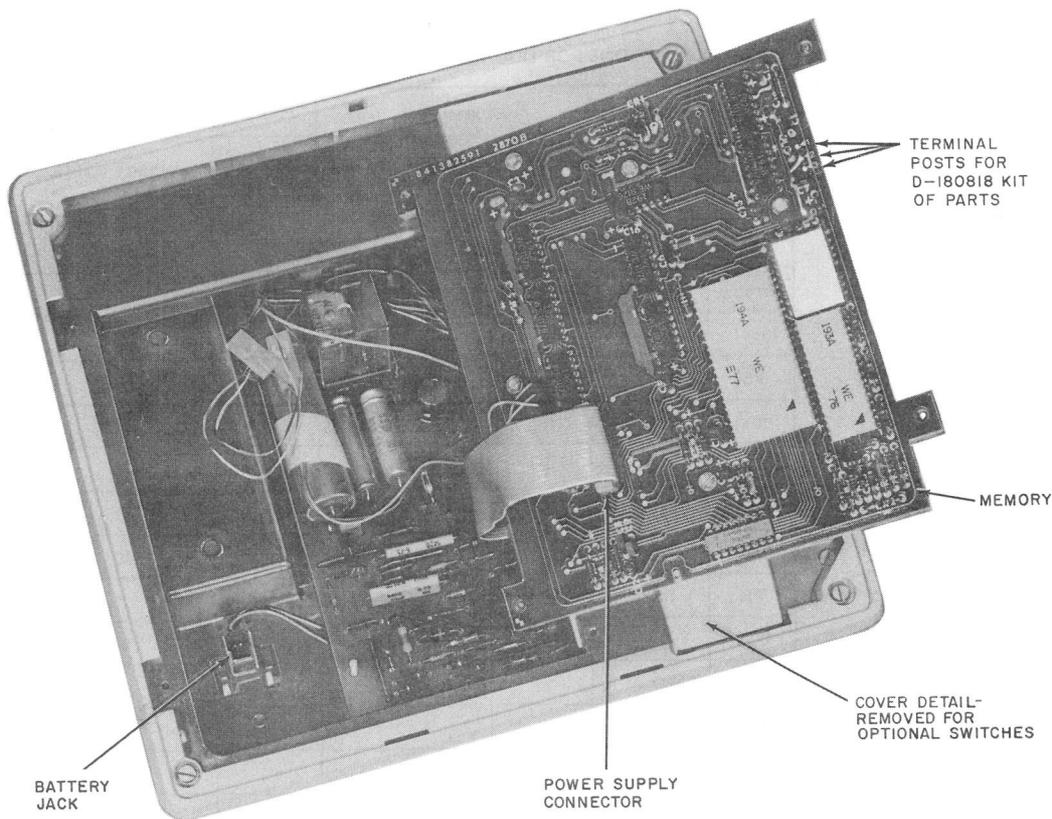

Fig. 4—2870B1M Dial, Internal View
- (5) Rotate the left edge of the memory upward as shown in (Fig. 4).
- (6) Mount switch below dial with the two screws provided.
- (7) Connect switch lead connectors to post terminals on memory board per Table C.
- (8) Set feature switch to OFF position and verify that dial operates in normal manner.
- (9) Set feature switch to ON position and verify feature provided.
- (4) Rotate the left edge of the memory upward and over dial area as shown in Fig. 4.
- (5) Disengage the connector(s) by pulling on them perpendicular to the printed wiring board.
- (6) Replace the memory by engaging the dial connector (2870B1M only) first. The connector(s) are keyed, one position is filled and should fit over the vacant position in the row of pins. The flat power supply cable should not be twisted.
- (7) Reassemble adjunct dial.